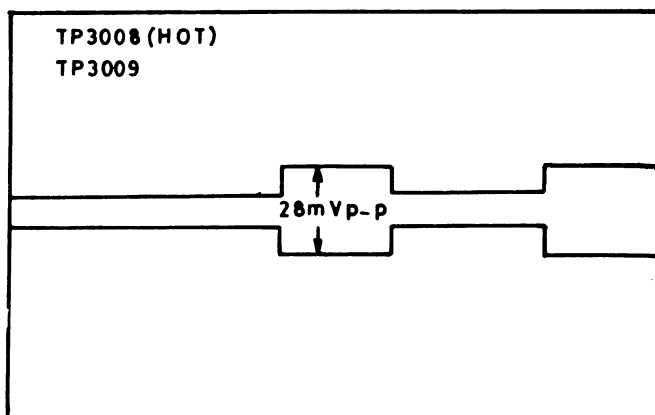

Fig. 11.14
4. Adjust the chroma recording current control R 8029 on the video section so that the wave form becomes as shown in fig.11.14